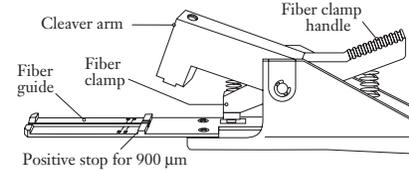

Figure 1
1.1 The FBC-001 Fiber Cleaver (Figure 1) uses the score and snap method to quickly provide good quality fiber cleaves for fusion or mechanical splicing.